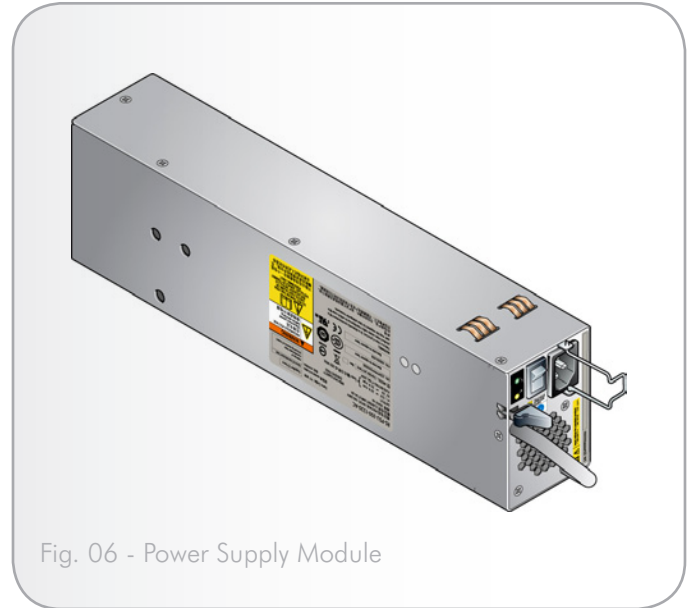

Fig. 06 - Power Supply Module
- ◆ Two plug-in Power Supply modules: 100-240V AC, 350W (See Fig. 06).
Two LEDs mounted on the rear panel of the power supply module (see Fig. 06) indicate the status of the module. The table below (Table 02 - Power Supply LEDs) describes the LEDs and the meaning of each.